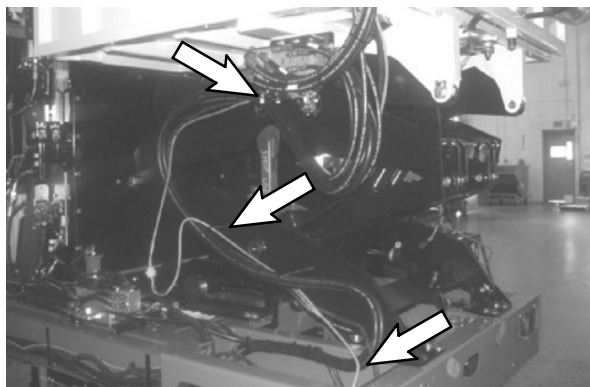

FIG. 30
47. Route the arrow stick cable assembly (2) along the hopper harness and up the hopper lift. Use cable ties (13) to secure the arrow stick cable assembly to the wire harness. Refer to Fig. 30.